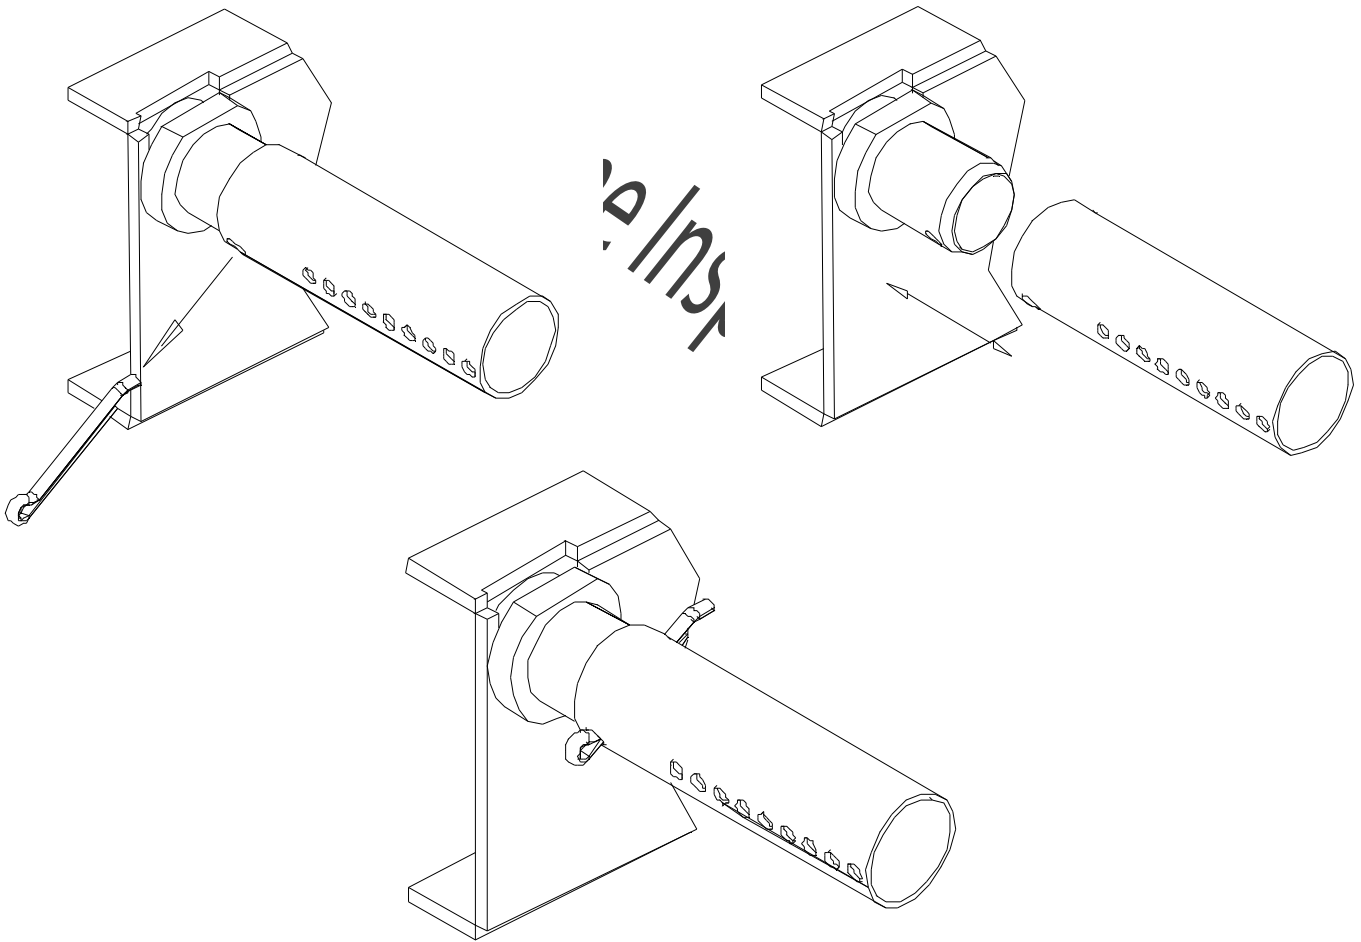

Figure 3.4 – Secondary Air Tube replacement
3. Install the baffle support/extension (H) ensuring that it fits between the front risers and hold it in place. Install the front secondary air tube as show in figure 3.4c ensuring air holes face forward. Install the cotter pins as in fig 3.4. Installing the front secondary air tube (E) will stabilize baffle assembly during the next step.
4. Install the middle (F) and rear (G) secondary air tubes ensuring air holes face forward. Install the cotter pins as in fig 3.4.
(See Figure 3.4)